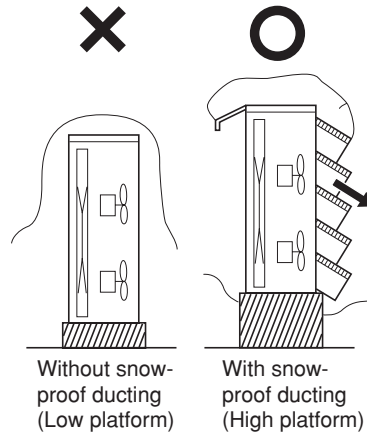

Fig. 2-9
- (1) The platform should be higher than the max. snow depth. (Fig. 2-9)
- (2) The 2 anchoring feet of the outdoor unit should be used for the platform, and the platform should be installed beneath the air intake side of outdoor unit.
- (3) The platform foundation must be firm and the unit must be secured with anchor bolts.
- (4) In case of installation on a roof subject to strong wind, countermeasures must be taken to prevent the unit from being blown over.